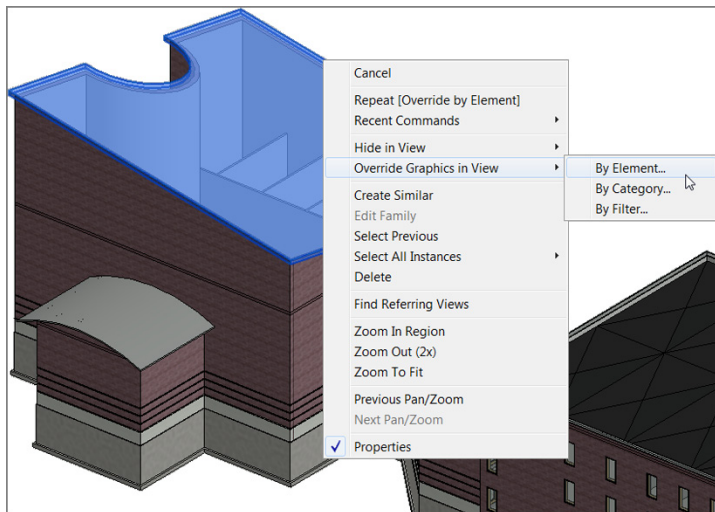

FIGURE 9.10: Selecting the roof and right-clicking
2. Select the sloped roof that covers the west wing, as shown in Figure 9.10.
4. Select **Override Graphics In View** > **By Element** (see Figure 9.10).